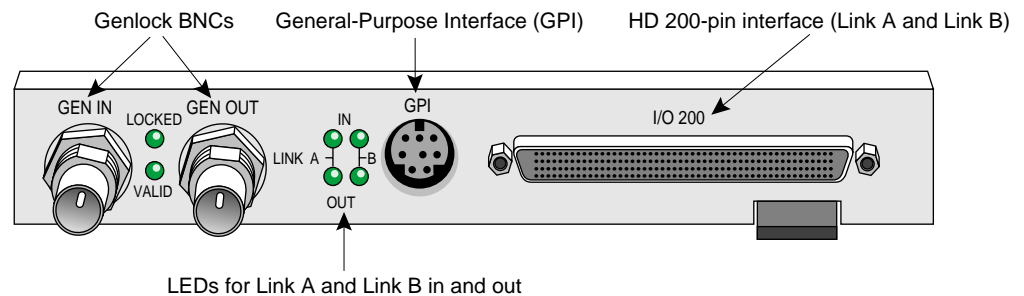

Figure B-1 HD I/O Ports
Figure B-1 shows connectors on the HD I/O front panel.
- the **GEN IN** BNC on the I/O panel (see Figure B-1 if necessary)or